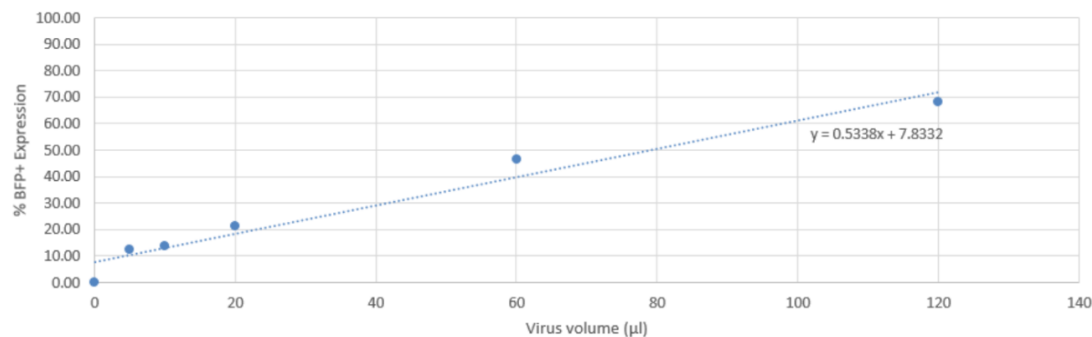

Fig 5: Example gRNA library titration curve. For 30% BFP expression a volume of 41 µl of virus per 2ml would be required.
5.19 Using the %BFP expression for each titration point, plot a titration curve to calculate the volume of virus required to obtain 30% BFP expression. (Fig 5).